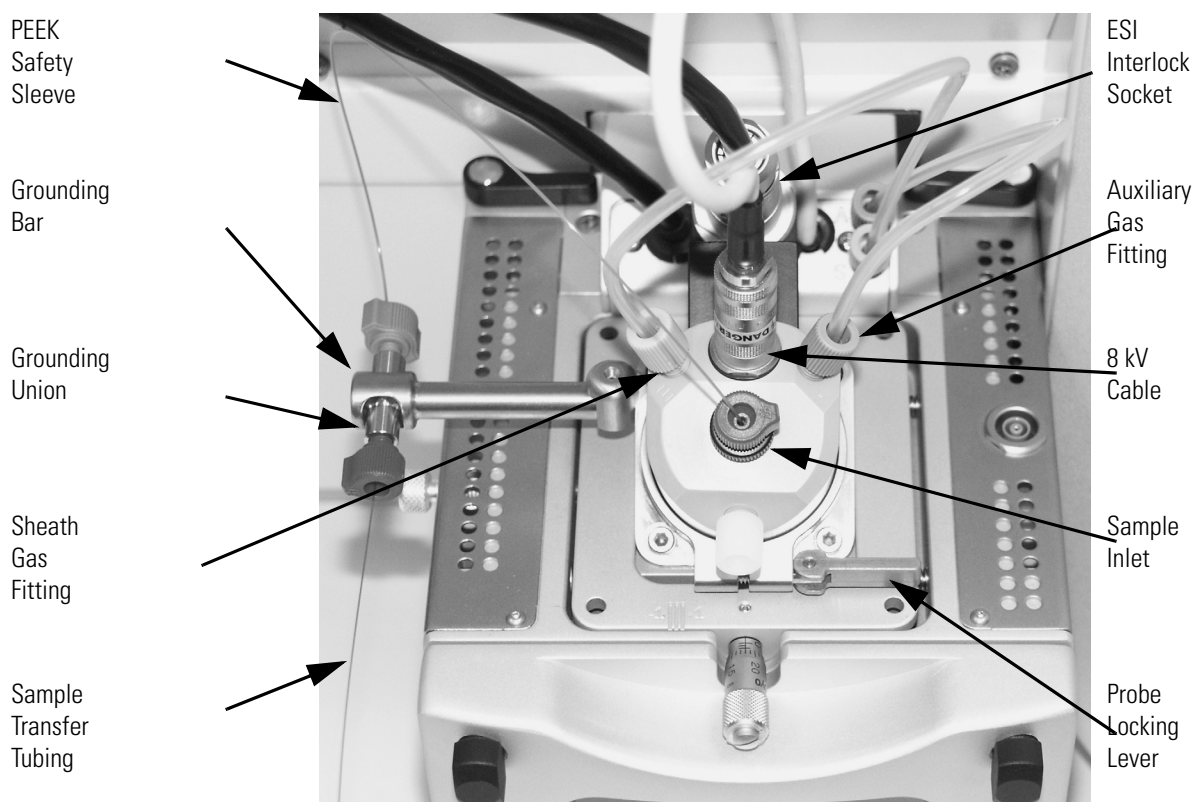

Figure 12. Ion Max ion source housing with ESI probe installed
2. Disconnect the sample transfer tubing from the stainless steel ZDV fitting (grounding union). See Figure 12.
3. Remove the 8 kV cable from the ESI needle high voltage receptacle as follows: (See Figure 12.)
6. Disconnect the AUX Gas fitting (green) from the auxiliary gas inlet (A) on the probe manifold. (Figure 12)
7. Disconnect the Sheath Gas fitting (blue) from the sheath gas inlet (S) on the probe manifold.